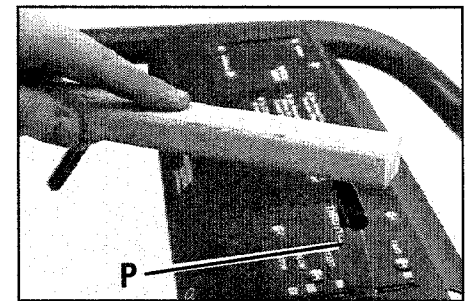

Figure 2-13: Attach engine throttle lever.
- Route the throttle cable up the right-side handlebar and insert the lever (P, Figure 2-13) up through the slot in the control panel that is labeled "ENGINE THROTTLE."
4. Place the "T" shaped engine throttle lever knob on the end of the lever and use a board to tap the knob down until it seats firmly on the lever (see Figure 2-13).